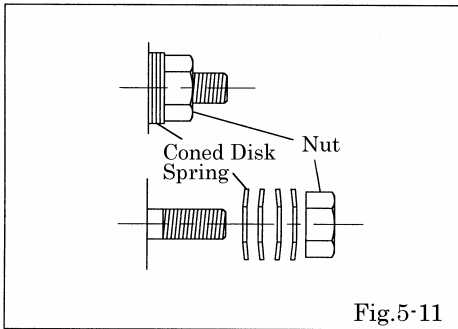

Fig.5-11
- * Attach the coned disk spring with making sure of its direction. [Fig.5-11]